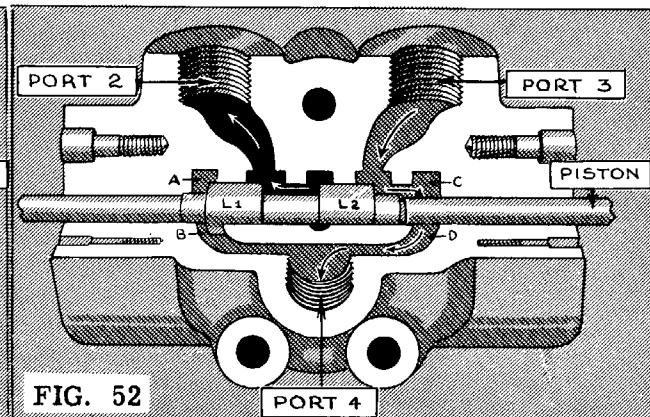

FIG. 52
In Figure 52 the piston within the valve has been moved to the left. In this position the space between its lands forms a connection between the intake (port 1) and port (2)